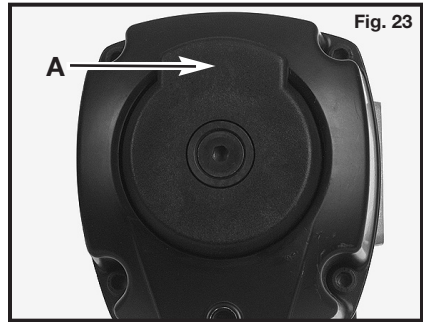

Fig. 23
6. Adjust directional exhaust deflector (A) Fig. 23, so that the exhaust air blast will be directed away from the operator. The exhaust deflector provides eight detented positions for directing the exhaust blast away from the operator. Grasp the deflector and rotate it to the desired position for the current application.